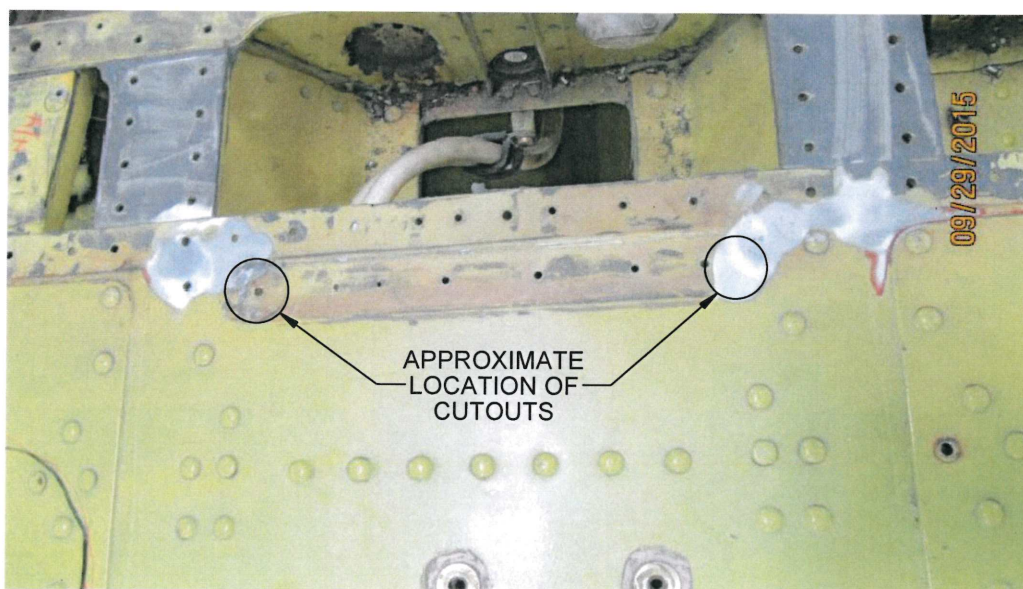

Figure 1 - Roof Assembly Corrosion Cutouts
3. Cut out/drill to remove damaged portions per Figure 1.